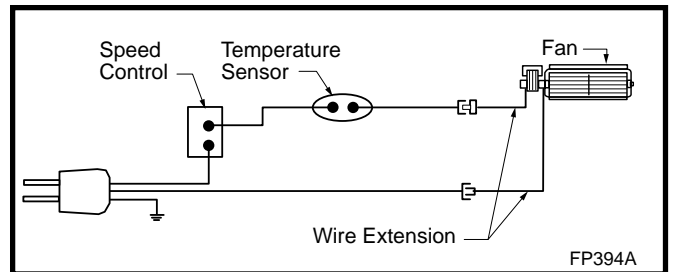

Fig. 6 Wiring diagram.
6. Attach the electrical flag connectors to the fan motor using the wire extension. (Fig. 6)